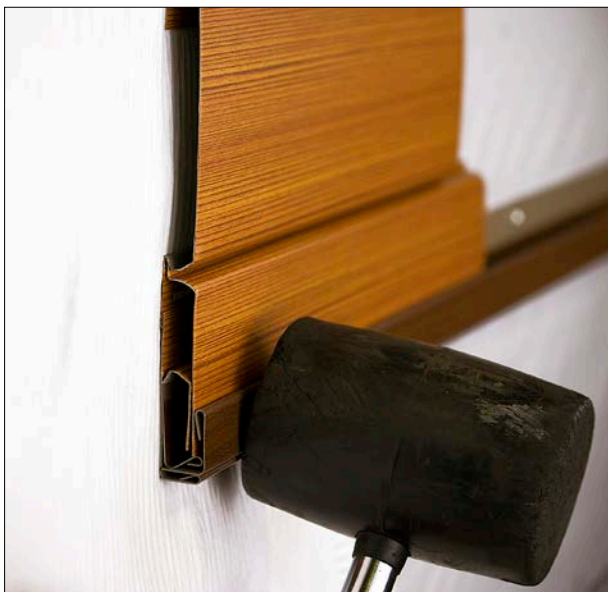

Fig.32
Step 7: Snap top cover of two piece J into place by applying pressure or tapping with a rubber mallet (Fig.32).